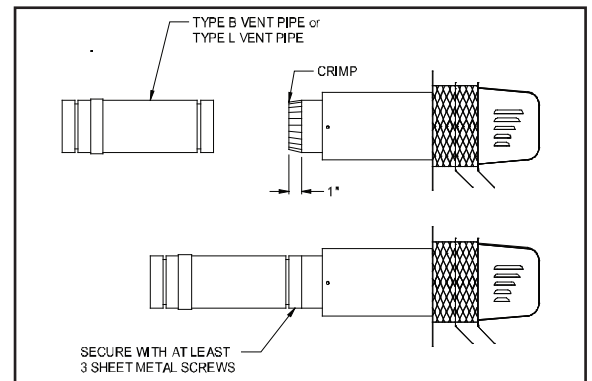

Figure 7
1. Using a hand crimper or a like device, crimp the inner pipe of the SWG power venter approximately 1" long. (See Figure 7)
3. Secure the vent pipe to the SWG power venter inner pipe with at least three (3) #8 sheet metal screws. Pre-drilling the holes through both pipes will allow easier fastening.